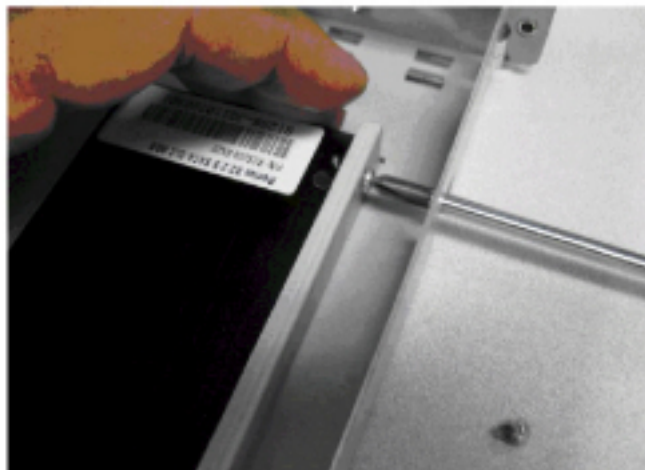

Figure 7.19: Drive Side Mount Screw
- Install and tighten both side mount screws (Figure 7.19).
- b. Install and tighten both side mount screws (Figure 7.19).